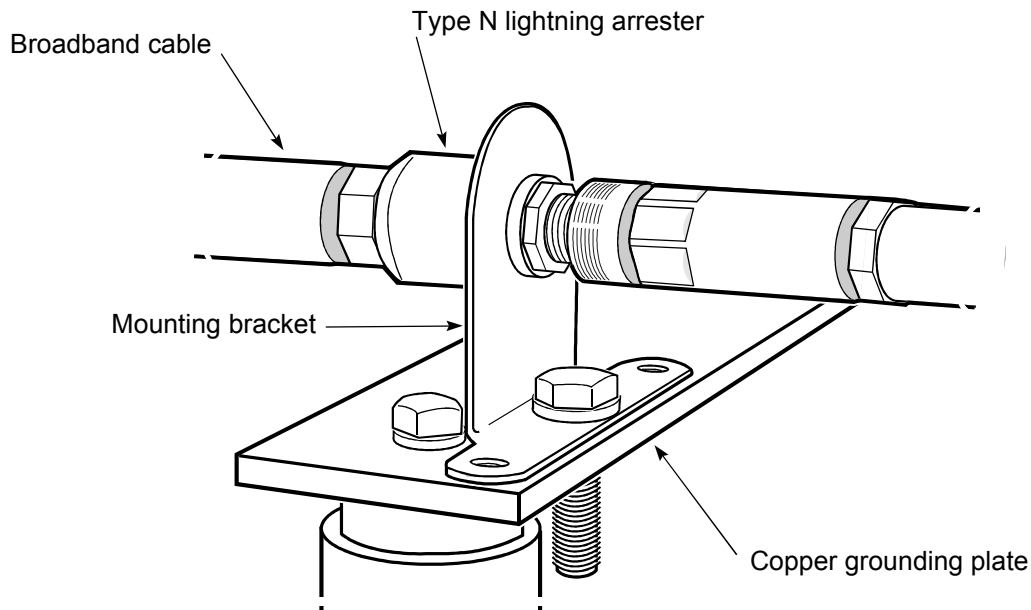

Figure 26 – Installed and connected lightning arrester
3. Connect the IF cables to the lightning arrester, as shown in *Figure 26*.